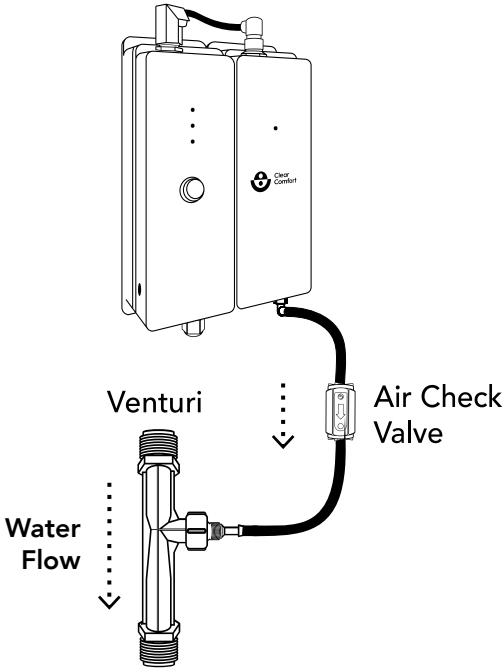

Figure 10: Venturi Connection
1. Run provided 1/4-inch tubing from the Manifold injection port to the straight barb fitting. Length of tube should be less than 10 feet. Shorten and cut tubing as possible. See Figure 10.
3. Install 1/4-inch one-way Air Check Valve (supplied) to eliminate any potential water back flow. See Figure 10 and 11 for details.